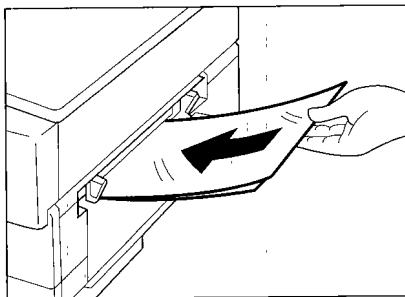

Figure 1-406
- ① After the first copy run, turn over the copy paper and set it as shown in Figure 1-406
- ② Make sure the paper is not moist.
- ③ Make sure that the paper is not curled.
- ④ Make sure that the paper is of 64 to 128 g/m² (business card, 200 g/m² or less).
- ⑤ In the case of a two-sided copy, each side may not be used more than once.
- ⑥ After the first copy run, cool the paper sufficiently and remove the curl before feeding it for the second copy run.